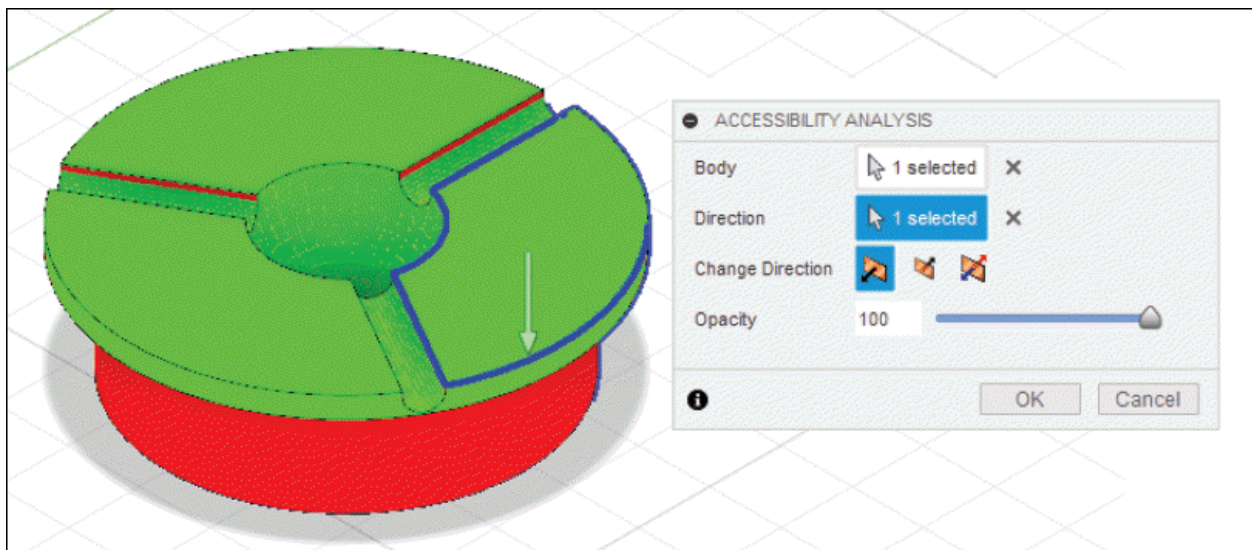

Figure-61. Updated ACCESSIBILITY ANALYSIS dialog box
- Click on the **Select** button of **Direction** section and select the edge, plane, or axis of the model to indicate the direction of analysis. The preview of the accessible areas will be displayed along with updated **ACCESSIBILITY ANALYSIS** dialog box; refer to Figure-61.